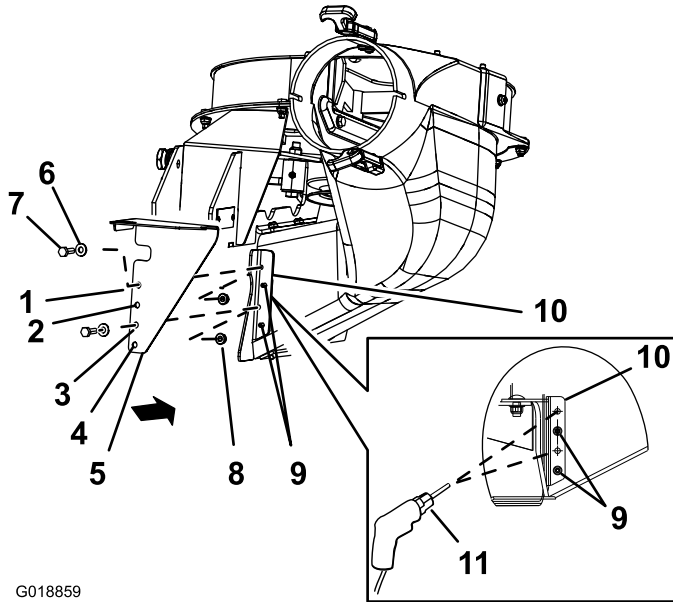

Figure 10
1. Align the lower CE lower guard to the blower-chute bracket as shown in Figure 10.
2. Align hole 2 and hole 4 of the lower CE lower guard to the rivet tails protruding through the blower-chute bracket (Figure 10).
3. Mark the outline of hole 1 and hole 3 of the CE lower guard on the blower-chute bracket, and remove the CE guard (Figure 10).
5. Drill 7 mm (0.277 inch) holes in the blower-chute bracket at the 2 center-punch marks (Figure 10).
1. Align the CE lower guard to the blower-chute bracket (Figure 10).
2. Align hole 2 and hole 4 of the CE lower guard to the rivet tails protruding through the blower-chute bracket (Figure 10).
3. Secure the CE lower guard to the blower with 2 hex-head bolt (1/4 x 3/4 inch), 2 washers, and 2 locknut (1/4 inch) through hole 1 and hole 4 of the CE guard (Figure 10).